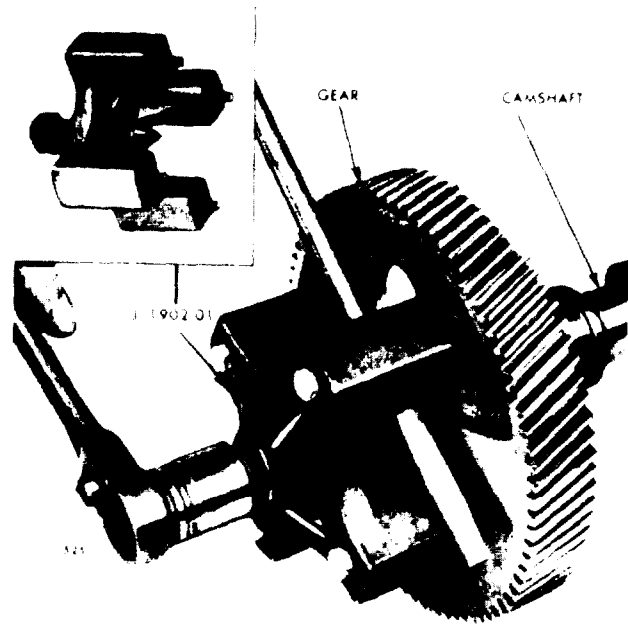

Figure 11B-160. Removing Gear (Camshaft or Balance Shaft)
5. Use gear installer J 1903 as shown in Figure 11B-161 on page 11B-106 to drive the gears on the camshaft and balance shaft.